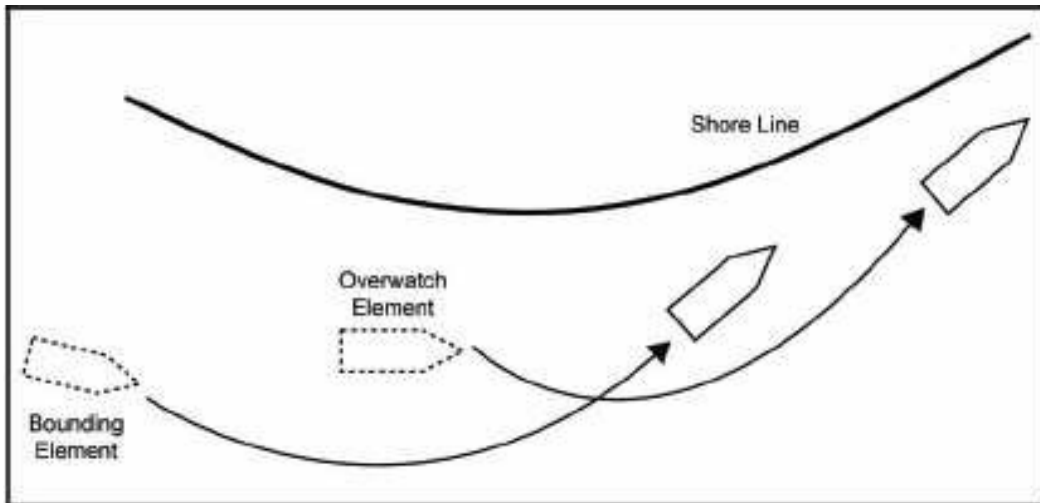

Figure 5-3. Alternate Bounds Overwatch
2. Alternate Bounds. The alternate bounds overwatch technique is like a leapfrog movement (see Figure 5-3). The bounding element proceeds an appropriate distance and stops to provide security for the overwatch element as in the successive bounds method. The overwatch element then proceeds past the halted bounding element, which is now the overwatch element, and takes up an overwatch position forward. Movement continues in a leapfrog fashion.